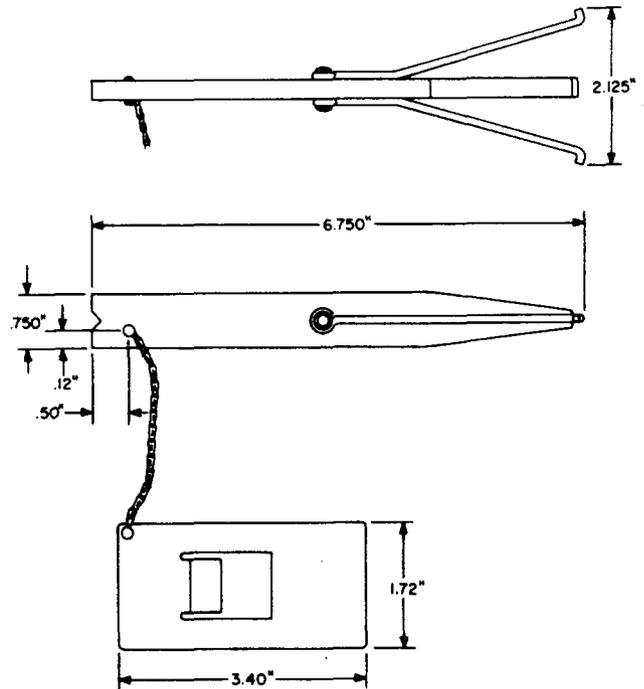

Fig. 8—602E Amplifier Extractor Tool
**2.08 602E:** The 602E amplifier extractor tool (Fig. 8) consists of a bar having two swivel hooks which are intended for insertion into the holes provided in the lugs of the KS-20378, L1, amplifier. The ends of the bar are notched so as to provide a brace against the repeater shelf when removing the amplifier. A plate is attached to the bar by means of a chain approximately 3 inches long to extend the reach of the tool for removing the amplifiers from their shelf mountings.